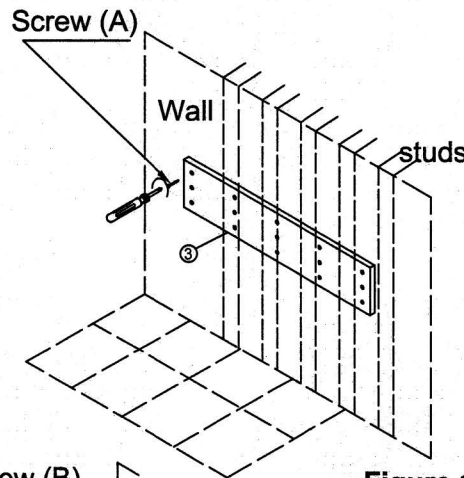

Figure 1
- Hold the plywood panel (3) against the wall and align the screw holes with your stud locations.
- See Figure 1 for recommended mounting height
- Use long screws (A) and drive them through the plywood panel to secure.